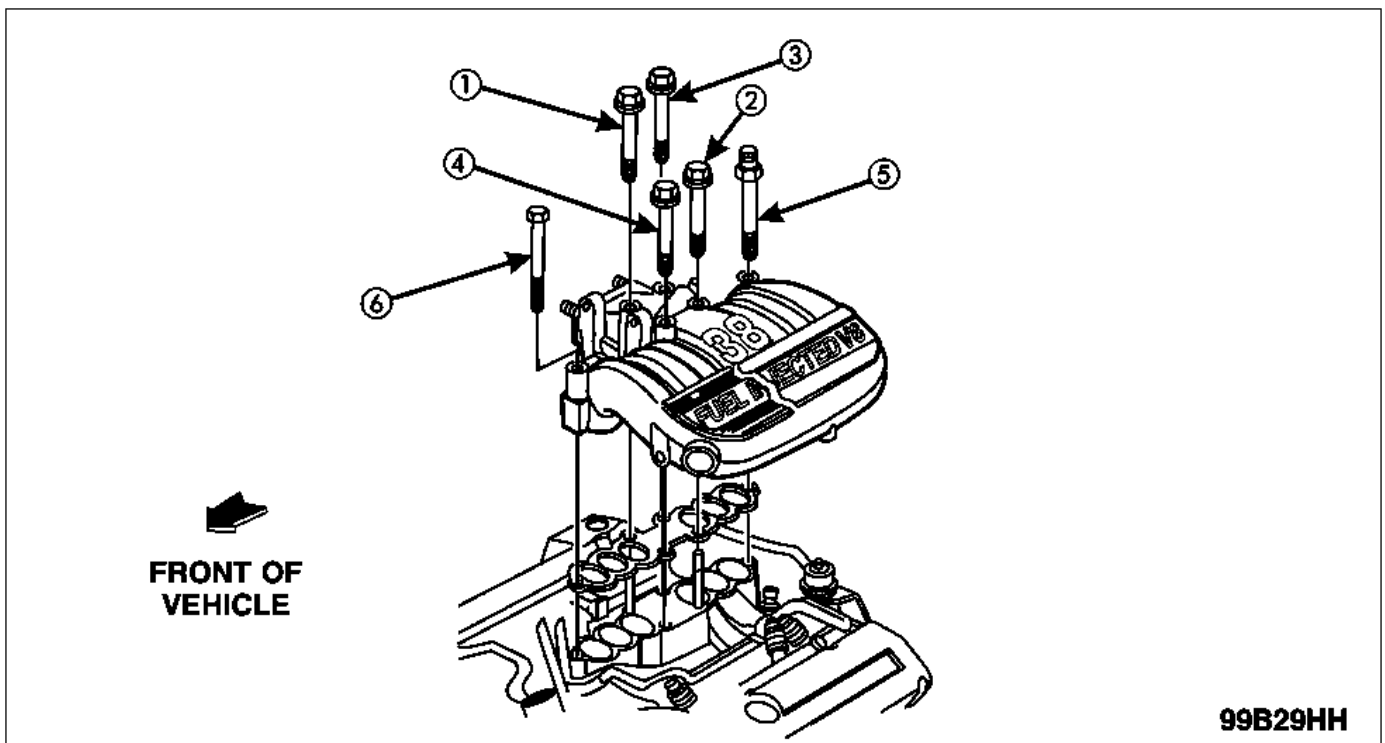

FIGURE 34
49. Install the upper intake manifold. Tighten the retainers in the sequence shown in Figure 34, first to 10 Nm (88 lb-in), then to 20 Nm (15 lb-ft), finally to 32 Nm (23 lb-ft).